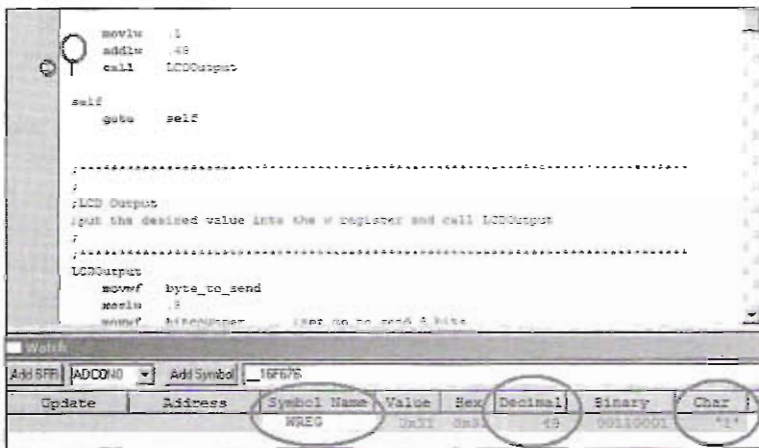

Figure 15-12
Go back to the code in *MPLAB IDE* and remove the final comment as illustrated in **Figure 15-12**, build the program and run the program to the breakpoint as before. The opcode addlw adds the literal 48 to the contents of the w-register (1) and places the result back into the w-register. This instruction converted the number 1 into the ASCII code representation for “1” and this